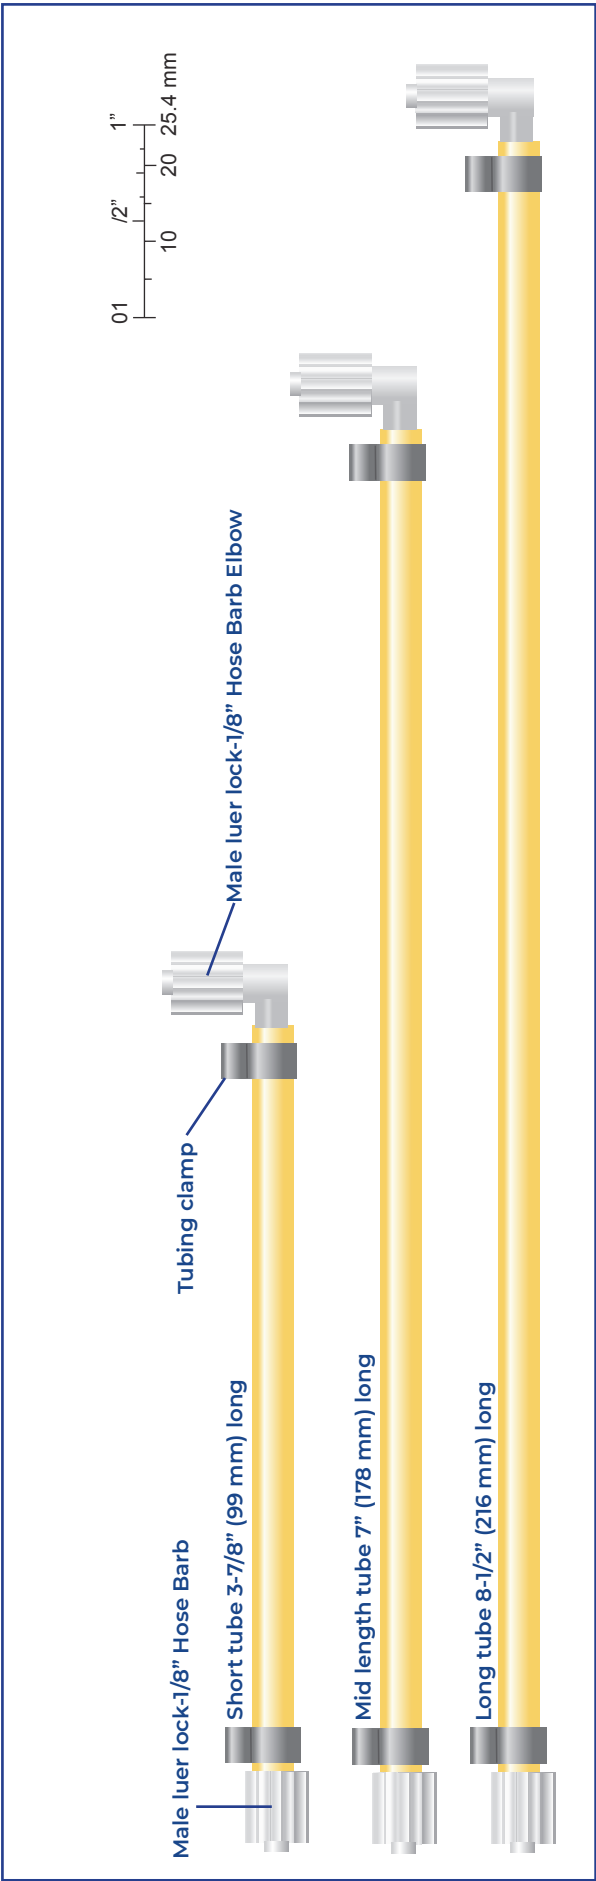

Figure 6. Minimate assembled and ready to run the tubing break-in procedure
(See figure 6)
- b. Install a piece of tubing from the feed pressure gauge back to reservoir (see figure 6)